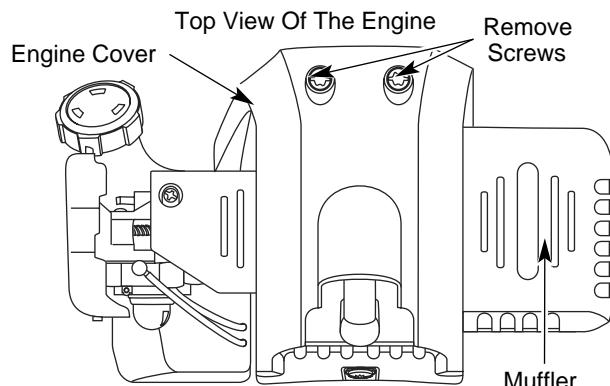

Fig. 35
2. Remove the two (2) screws on top of the engine cover with a Flat-head or T-25 Torx screwdriver (Fig. 35).
6. Remove the engine cover (Fig. 35).